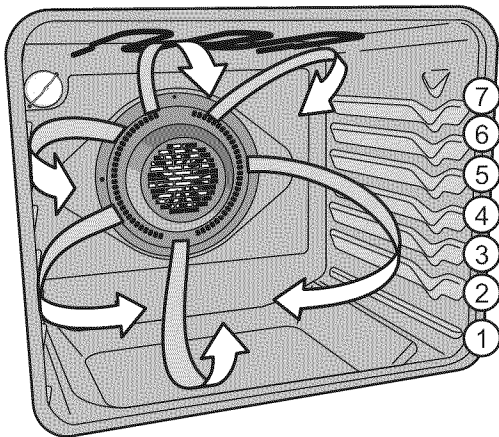
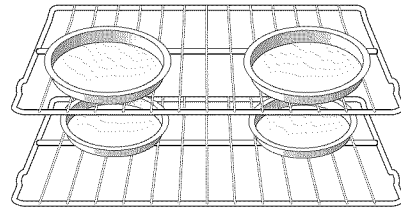

Figure 29: Air movement using convection
Figure 30: Baking on multiple levels
- When using two oven racks, place in positions 3 and 6 (Figure 29) and place bakeware as shown in Figure 30.